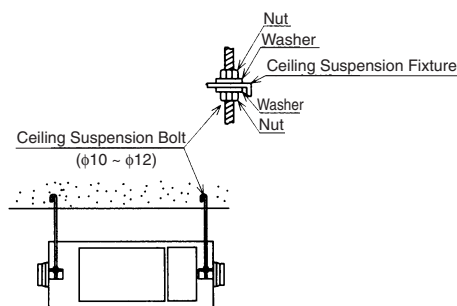

Fig. 1
(1) Excessive bending
(2) Multi-time bending
(3) Making the connecting duct smaller
- Install the unit firmly and horizontally enough to support its weight. (Fig. 1)